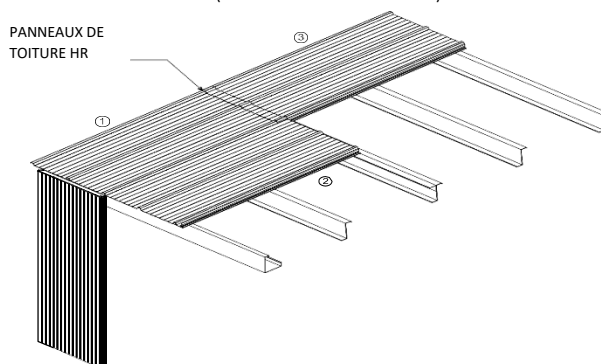

FIGURE 5
- 11.2 LES PANNEAUX DE TOITURE HR3 ET HR5 DOIVENT ÊTRE INSTALLÉS DANS UN ORDRE PRÉCIS. CELA GARANTIT LE CHEVAUCHEMENT ADÉQUAT DES CHEVAUCHEMENTS D'EXTRÉMITÉ ET LATÉRAUX (CONSULTEZ LA FIGURE 5 CI-DESSOUS). LES NUMÉROS DE PANNEAU CORRESPONDENT À L'ORDRE D'INSTALLATION.